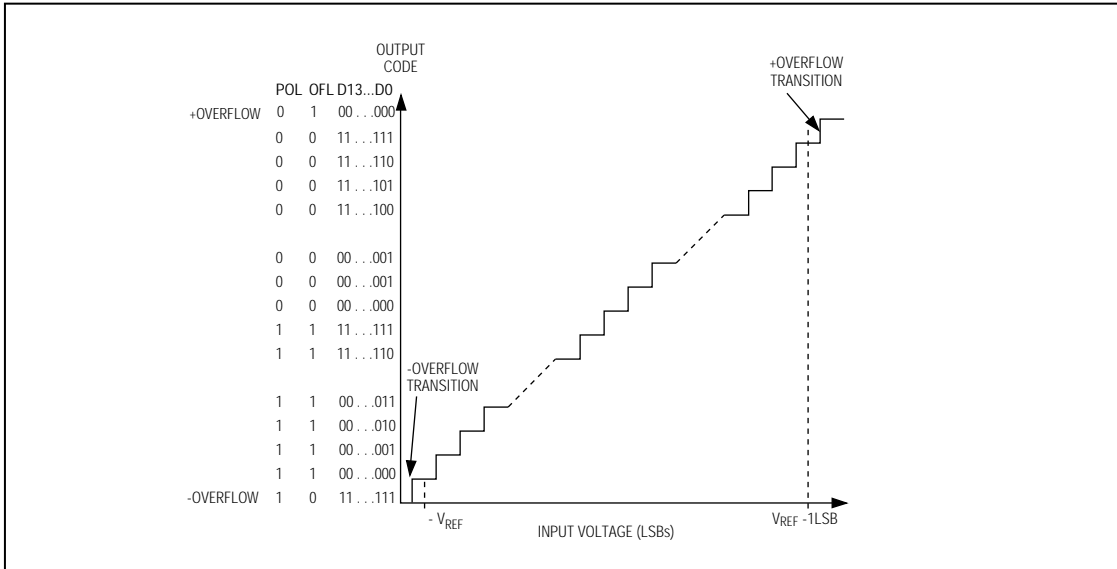
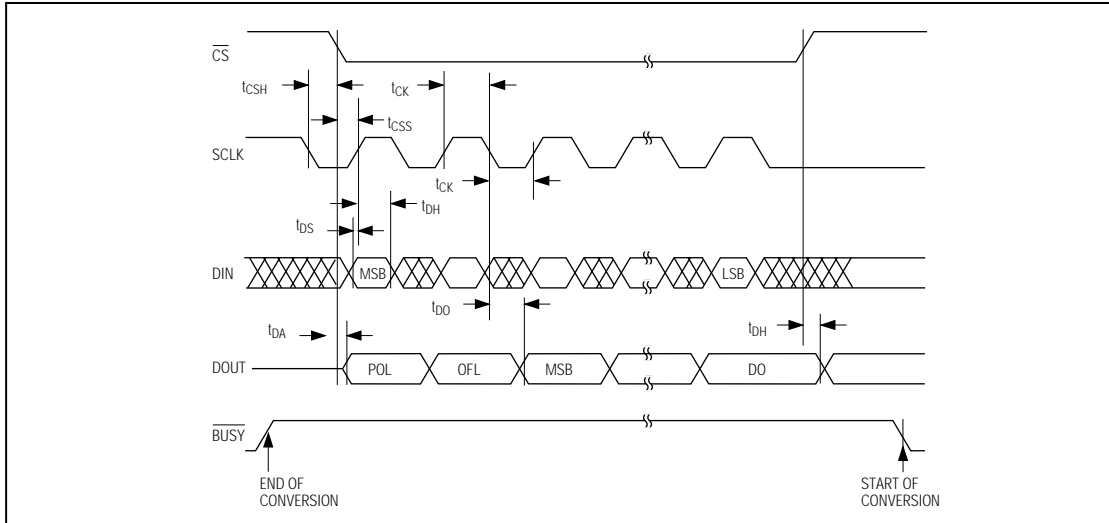

Figure 4. Differential Transfer Function
Figure 6. Detailed Serial-Interface Timing
The output data from the MAX110/MAX111 is arranged in twos-complement format (Figures 4, 5). The sign bit (POL) is shifted out first, followed by the overrange bit (OR), and the 14 data bits (MSB first) (see Figure 6). The MAX110 operates from $\pm 5V$ power supplies and converts low-frequency analog signals in the $\pm 3V$ range when using the maximum reference voltage of $V_{REF} = 3V$ ($V_{REF} = V_{REF+} - V_{REF-}$). Within the $\pm 3V$ input range, greater accuracy is obtained within $\pm 2.5V$ (see *Electrical Characteristics* for details). Note that a negative input voltage is defined as $V_{IN-} > V_{IN+}$. For the MAX110, the absolute voltage at any analog input pin must remain within the $(V_{SS} + 2.25V)$ to $(V_{DD} - 2.25V)$ range.
Data is transferred into and out of the serial I/O shift register by pulling \overline{CS} low and applying a serial clock at SCLK. This fully static shift register allows SCLK to range from DC to 2MHz. Output data from the ADC is clocked out on SCLK’s falling edge and should be read on SCLK’s rising edge. Input data to the ADC at DIN is clocked in on SCLK’s rising edge. A new conversion begins when \overline{CS} returns high, provided the MSB in the input control word (NO-OP) is a 1 (see *Using the MAX110/MAX111 with Microwire, SPI, and QSPI Serial Interfaces*). Figure 6 shows the detailed serial-interface timing diagram.